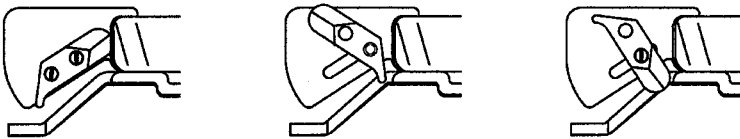

Fig. 23
- They make material flat so that it can get uncurled at the mouth of suction pipe. Change their position, direction, and thickness according to sorts of material. (Fig. 23)